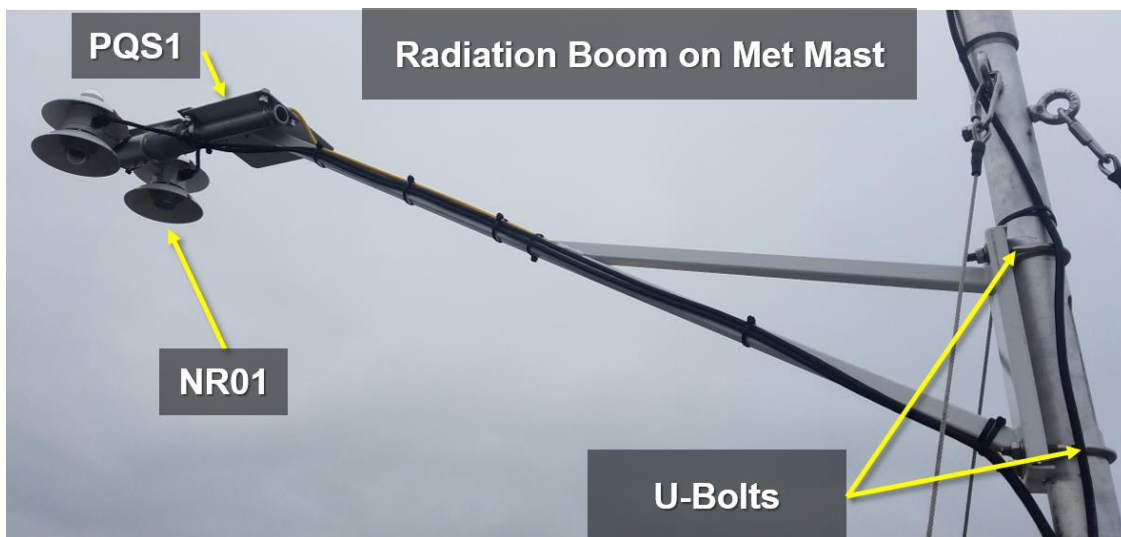

Figure 39. Radiation Boom Mount U-bolt Location
25. Remove the Radiation Boom from the Met Mast (Figure 39).
- b. Remove via the two U-bolts securing the boom arm to the Met Mast. Reference Figure 39.